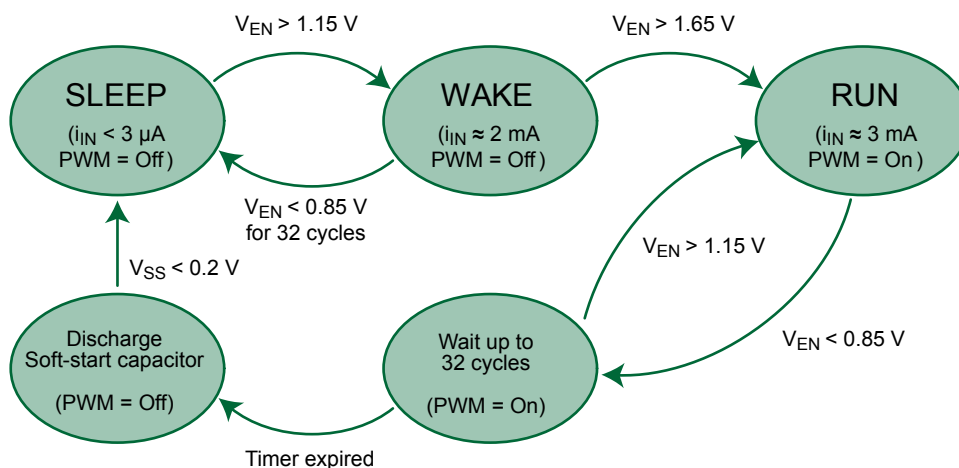

Figure 3. EN/SYNC voltage and A8584 operating modes
- A simple logic input. If EN/SYNC is a logic low ($V_{EN/SYNC} < V_{ENIL}$), then the A8584 and VOUT will be off. If EN/SYNC is a logic high ($V_{EN/SYNC} > V_{ENIH}$), the A8584 will turn on and, provided there are no fault conditions, soft start will be initiated and VOUT will ramp to its final voltage in a time set by the soft start capacitor (CSS). (The operating modes of the A8584 based on EN/SYNC voltage are summarized in figure 3.)
The A8584 protects itself from over-heating, with an internal thermal monitoring circuit. If the junction temperature exceeds the upper thermal shutdown threshold (T_{TSD} , nominally 165°C) the voltages at the soft start and COMP pins will be pulled to GND and both the upper and lower MOSFETs will be shut off. The A8584 will stop PWM switching and stay in WAKE state (see figure 3). It will automatically restart when the junction temperature decreases more than the thermal shutdown hysteresis (T_{TSDHYS} , nominally 20°C).